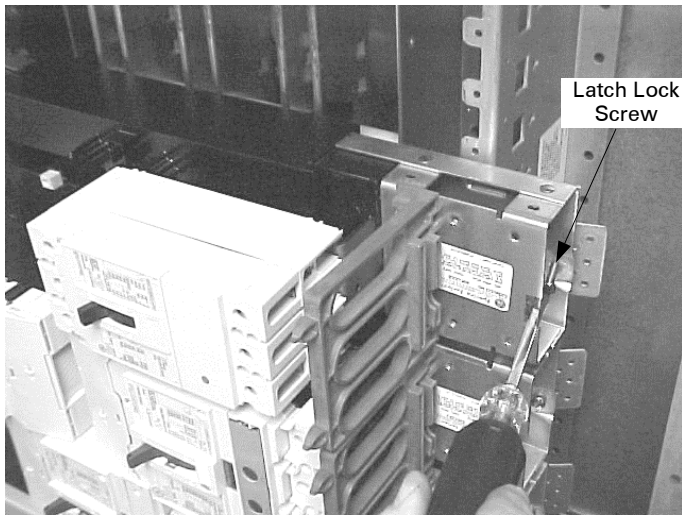

Figure 7. Installing the breaker module.
- 5. Install the module.** Latch one side of the circuit breaker module. Release the rail latch. Pivot the module onto the bus bars and engage the second latch. Release the rail latch. Tighten the rail latch screws to 25 in-lb, as shown in Figure 7.